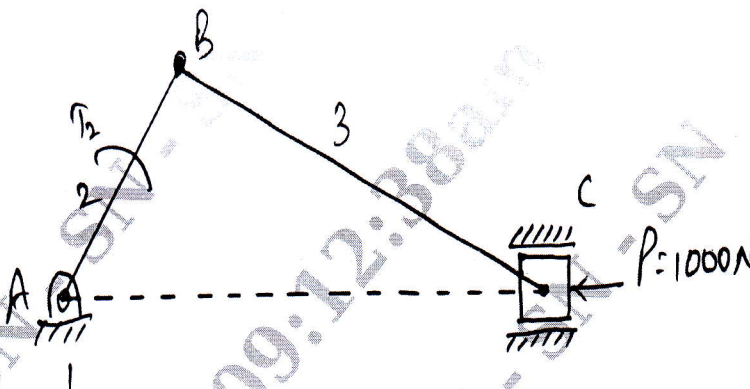

Fig. Q5
- 5 A slider crank mechanism is shown in Fig. Q5. The force applied to the piston is 1000 N. when the crank is at 60° from IDC. Calculate the driving torque T_2 . (20 Marks)